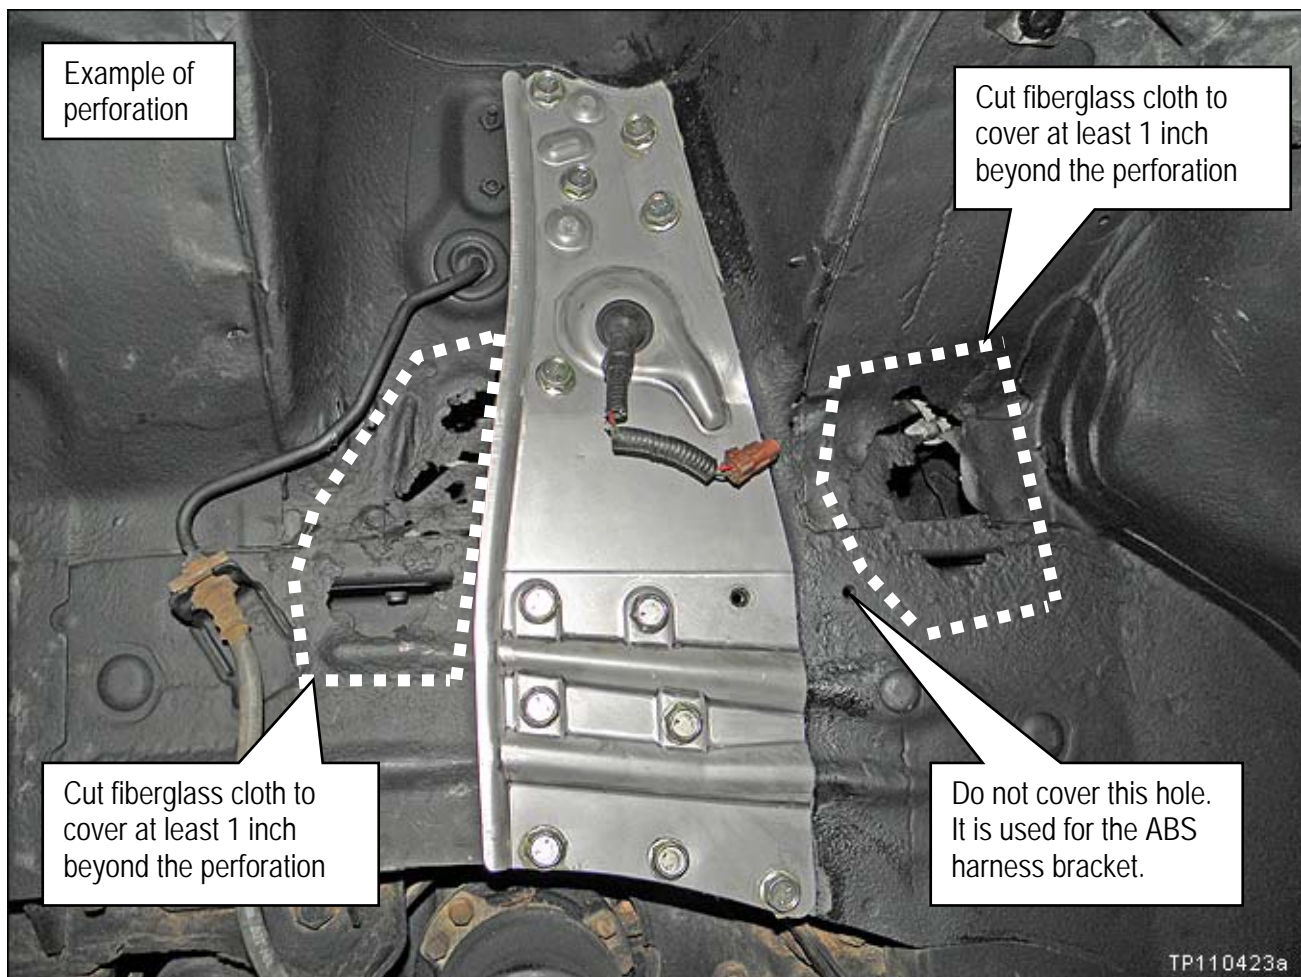

Figure RB29
NOTE: The Photo in Figure RB29 is an example of possible perforation. The vehicle you are working on may have perforation in additional areas, areas different than these, or may not have any perforation.
32. Cut fiberglass cloth to cover perforated areas (see example in Figure RB29).